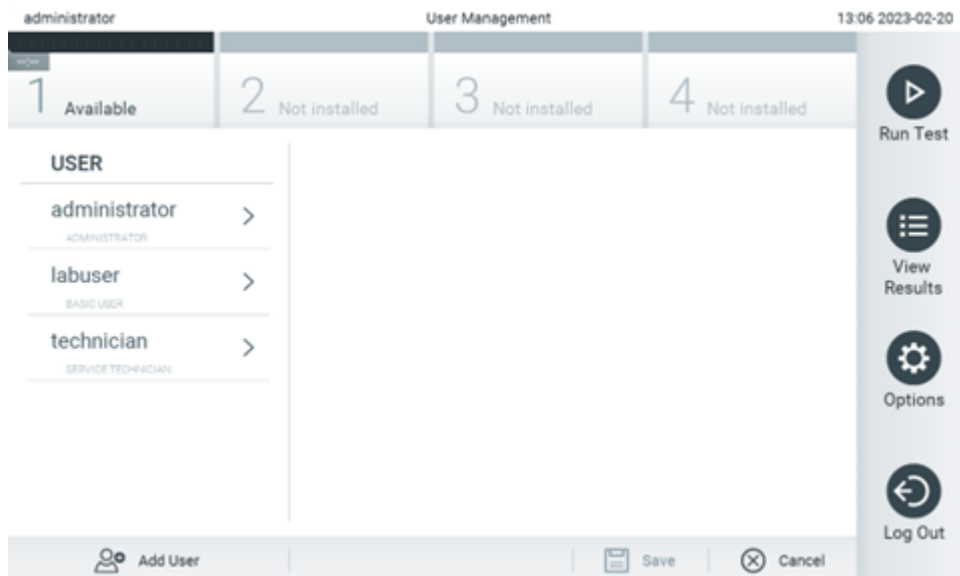

Figure 50. User Management screen.
1. Press **Options > User Management** to configure users. The User Management screen appears in the content area of the display (Figure 50).